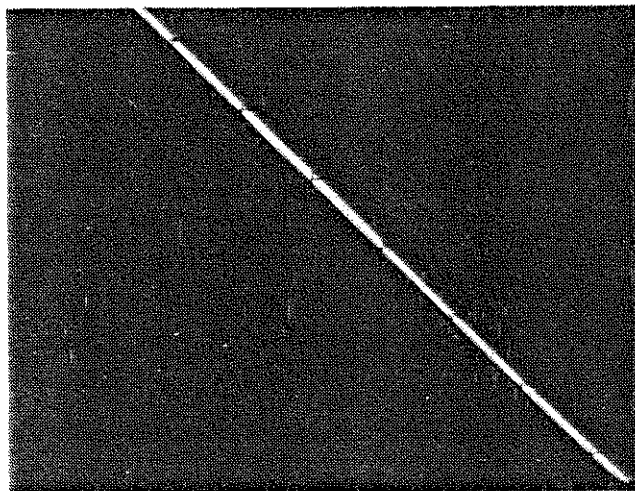

Fig. 4-21 X-Y waveform
- c. CHECK for the MONITOR display in Figure 4-21.